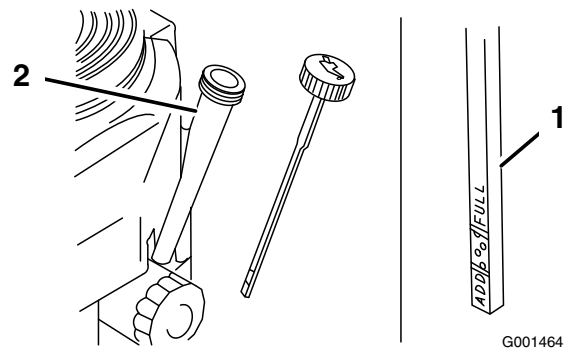

Figure 25
- Clean around the oil dipstick (Figure 25) so that dirt cannot fall into the filler hole and damage the engine.
- Unscrew the oil dipstick and wipe the end clean (Figure 25).
- Slide the oil dipstick fully into the filler tube, but do not thread onto tube (Figure 25).
9. Slowly pour approximately 80% of the specified oil into the filler tube (Figure 25).